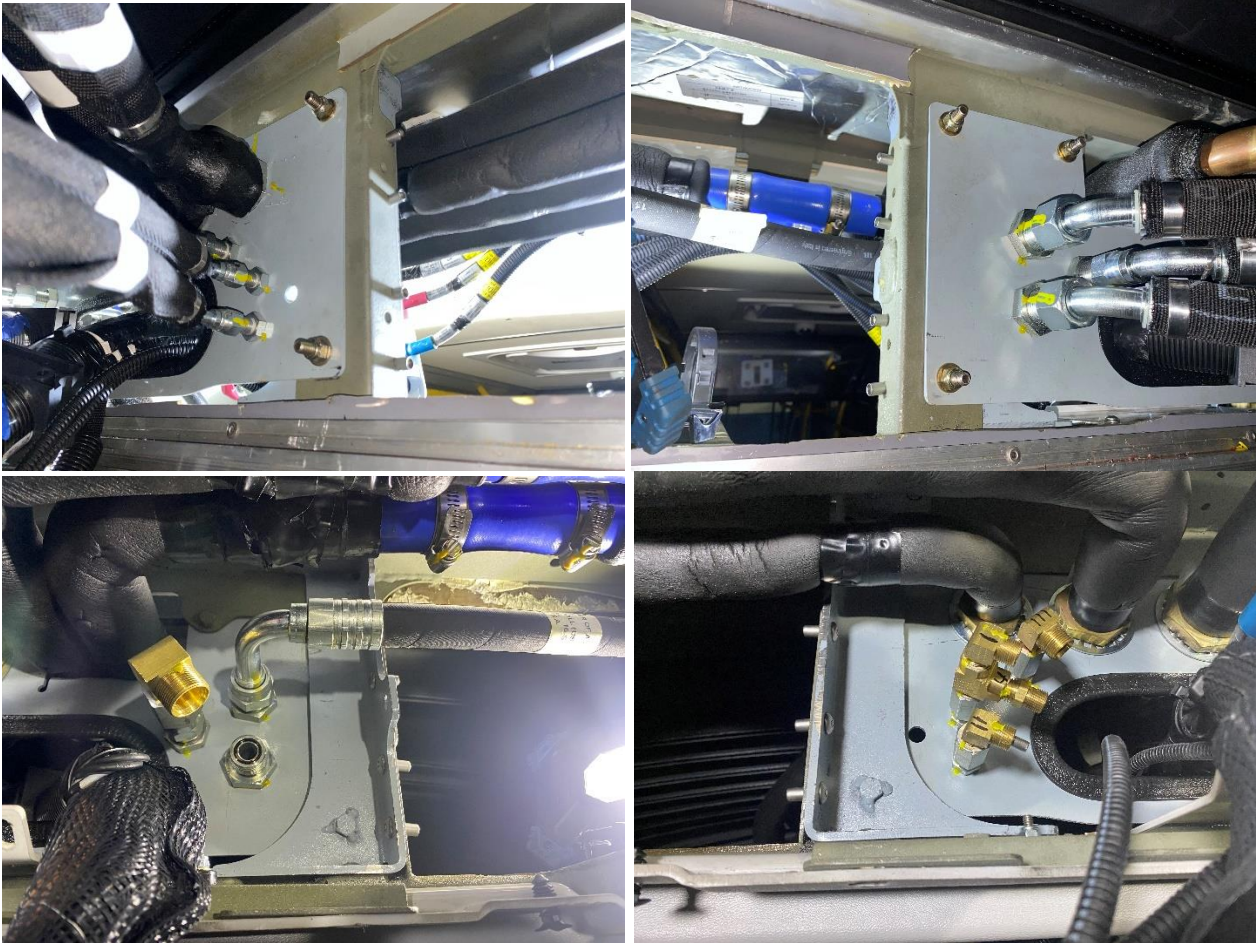

FIGURE 13B: VIEW OF BRACKETS INSTALLED WITH RIVETS
22. Re-install bulkhead plate. Secure in place with locknut (PN: 40N05000), tighten locknuts. Torque hardware to **24 FT/LBS dry**. Typical 4 places **Note:** Ensure that all weld preparation is completed before the brackets are installed. Pictures below show the new brackets installed. See Figure 13B.